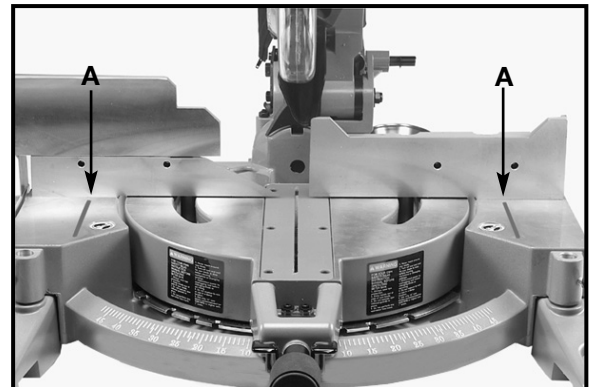

Fig. 17
⚠ WARNING THE AREA INSIDE THE TWO RED LINES (A) FIG. 17 ON THE TABLE IS DESIGNATED AS A HAZARD ZONE. **NEVER** PLACE YOUR HANDS INSIDE THIS AREA WHILE THE TOOL IS BEING OPERATED. ALWAYS USE A CLAMP TO SECURE SHORT WORKPIECES.